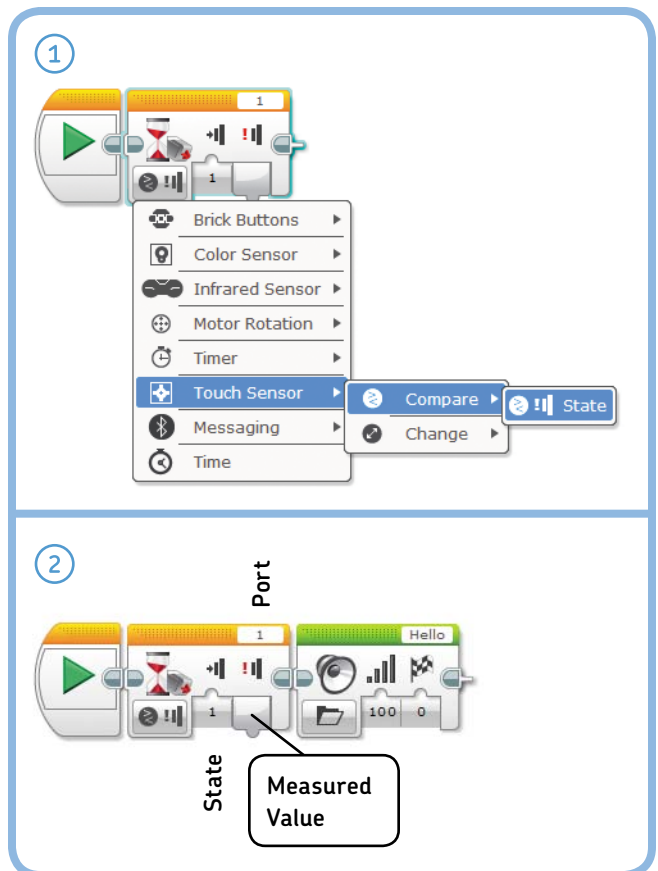

Figure 6-6: The WaitForTouch program makes the robot play a sound when the Touch Sensor is pressed.
Earlier, you used a Wait block to pause the program for a set amount of time (say, five seconds). But you can also use a Wait block to pause a program until a sensor is triggered. For example, you can configure a Wait block to pause until the Touch Sensor is pressed by selecting the *Touch Sensor* mode, as shown in Figure 6-6.
Create a new project called *EXPLOR3R-Touch* with a program called *WaitForTouch*, as shown in Figure 6-6. The mode of the Wait block is set to **Touch Sensor – Compare – State**. When you run the program, nothing will happen at first, but when you press the Touch Sensor (by pushing the bumper), the robot should say “Hello.”
HINT Add another pair of Wait and Sound blocks to the *WaitForTouch* program (see Figure 6-6). The first Wait block should wait for a press, and the second should wait for a release. Where do you place these new blocks?
- * A *Wait block in Compare mode* keeps taking new sensor measurements until the condition becomes true. When it's true, the program moves on to the next block in line (see Figure 6-6).